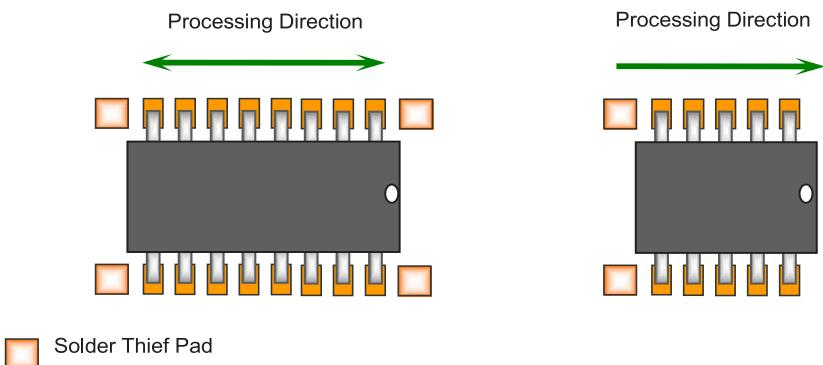

Figure 54: Solder thief pad placement for SOP packages undergoing wave soldering.
- [102] The long axis of SOP package components should be perpendicular to the direction of travel of the solder wave in the wave soldering process. SOP components also need extra pads at the end of the solder pad rows to act as 'solder thieves,' see Figure 54.